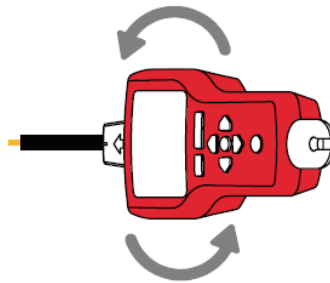

Figure 4.10c
6. To verify wire direction, periodically rotate receiver 90 degrees. Signal strength will be highest when wire is aligned with Tip Sensor groove. (see figure 4.10c)